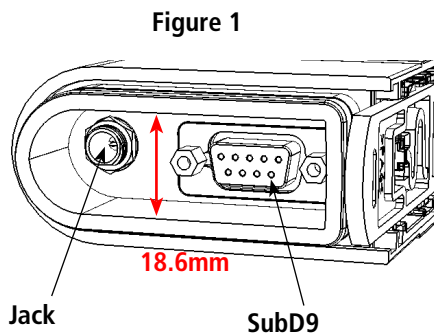

Figure 2
- Jack plug (fig. 2) type SWITCHCRAFT 761K for the power supply (available via adeunis®)